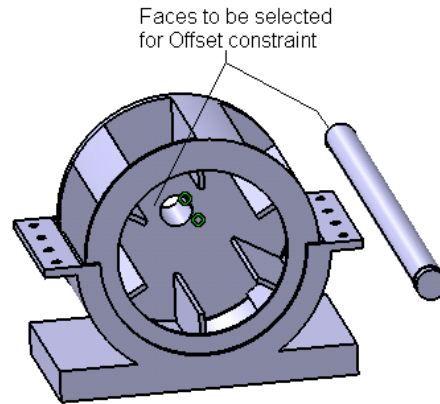

Figure 11-74 Faces to be selected for Offset constraint
2. Select the **Manipulation** button from the **Move** toolbar. Choose the **Drag along X axis** button and drag the Motor Shaft to move it out of the assembly, as shown in Figure 11-74. Exit the **Manipulation Parameters** dialog box.
3. Choose the **Offset** button and then select the faces shown in the Figure 11-74. The **Constraint Properties** dialog box is displayed. Set the **Orientation** to **Same** and the **Offset** value to **0**. Update the model to place the Motor Shaft at its proper location.